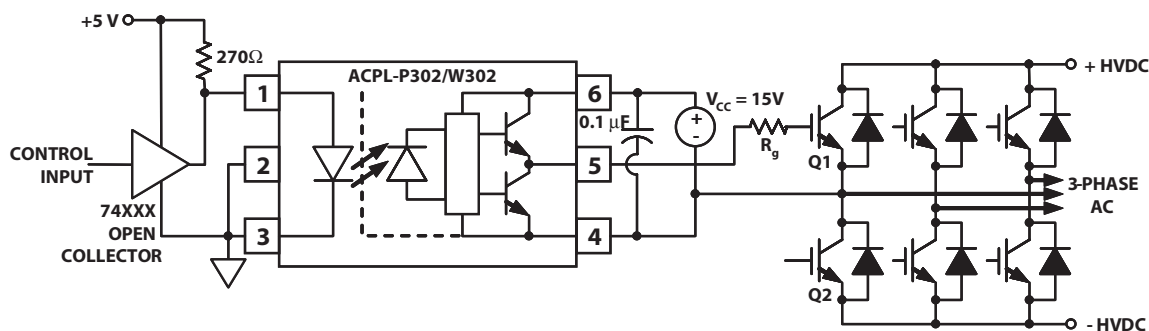
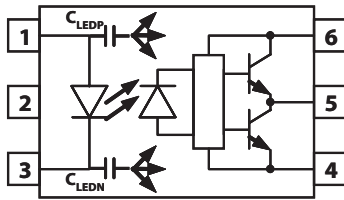
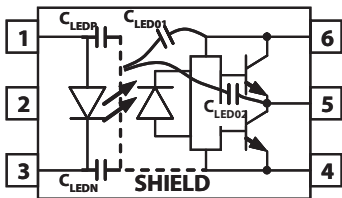
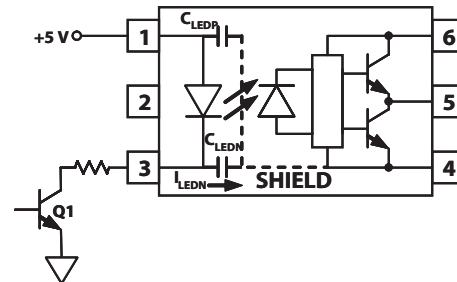

Figure 17. Recommended LED Drive and Application Circuit for ACPL-P302/W302
Figure 19. Optocoupler Input to Output Capacitance Model for Unshielded Optocouplers.
Figure 20. Optocoupler Input to Output Capacitance Model for Shielded Optocouplers.
Figure 22. Not Recommended Open Collector Drive Circuit.
To keep the IGBT firmly off, the ACPL-P302/W302 has a very low maximum  $V_{OL}$  specification of 1.0 V. Minimizing  $R_g$  and the lead inductance from the ACPL-P302/W302 to the IGBT gate and emitter (possibly by mounting the ACPL-P302/W302 on a small PC board directly above the IGBT) can eliminate the need for negative IGBT gate drive in many applications as shown in Figure 17. Care should be taken with such a PC board design to avoid routing the IGBT collector or emitter traces close to the ACPL-P302/W302 input as this can result in unwanted coupling of transient signals into the input of ACPL-P302/W302 and degrade performance. (If the IGBT drain must be routed near the ACPL-P302/W302 input, then the LED should be reverse biased when in the off state, to prevent the transient signals coupled from the IGBT drain from turning on the ACPL-P302/W302.
Step 1: Calculate  $R_g$  minimum from the  $I_{OL}$  peak specification. The IGBT and  $R_g$  in Figure 17 can be analyzed as a simple RC circuit with a voltage supplied by the ACPL-P302/W302.
where  $K_{ICC} \cdot Q_g \cdot f$  is the increase in  $I_{CC}$  due to switching and  $K_{ICC}$  is a constant of 0.001 mA/(nC\*kHz). For the circuit in Figure 17 with  $I_F$  (worst case) = 10 mA,  $R_g = 57.5 \Omega$ , Max Duty Cycle = 80%,  $Q_g = 100$  nC,  $f = 20$  kHz and  $T_{AMAX} = 85^\circ\text{C}$ :
Without a detector shield, the dominant cause of optocoupler CMR failure is capacitive coupling from the input side of the optocoupler, through the package, to the detector IC as shown in Figure 19. The ACPL-P302/W302 improves CMR performance by using a detector IC with an optically transparent Faraday shield, which diverts the capacitively coupled current away from the sensitive IC circuitry. However, this shield does not eliminate the capacitive coupling between the LED and optocoupler pins 5-8 as shown in Figure 20. This capacitive coupling causes perturbations in the LED current during common mode transients and becomes the major source of CMR failures for a shielded optocoupler. The main design objective of a high CMR LED drive circuit becomes keeping the LED in the proper state (on or off) during common mode transients. For example, the recommended application circuit (Figure 17), can achieve 10 kV/ $\mu$ s CMR while minimizing component complexity.
The open collector drive circuit, shown in Figure 22, can not keep the LED off during a  $+dV_{CM}/dt$  transient, since all the current flowing through  $C_{LEDN}$  must be supplied by the LED, and it is not recommended for applications requiring ultra high  $CMR_L$  performance. The alternative drive circuit which like the recommended application circuit (Figure 17), does achieve ultra high CMR performance by shunting the LED in the off state.